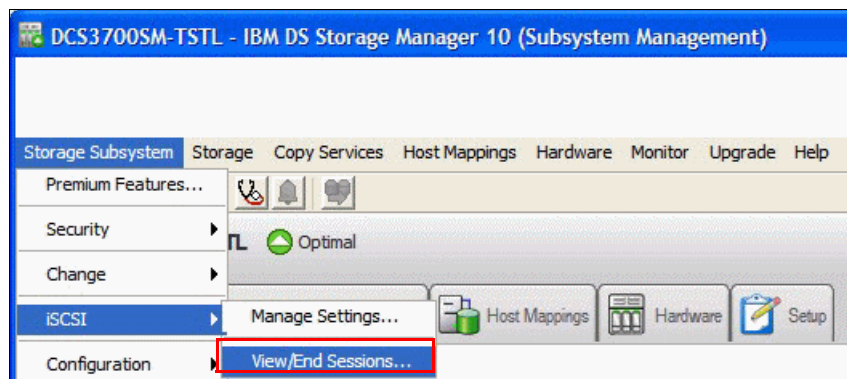

Figure 12-16 End an iSCSI session
1. Click **Storage Subsystem** → **iSCSI** → **View/End iSCSI Sessions** (Figure 12-16).